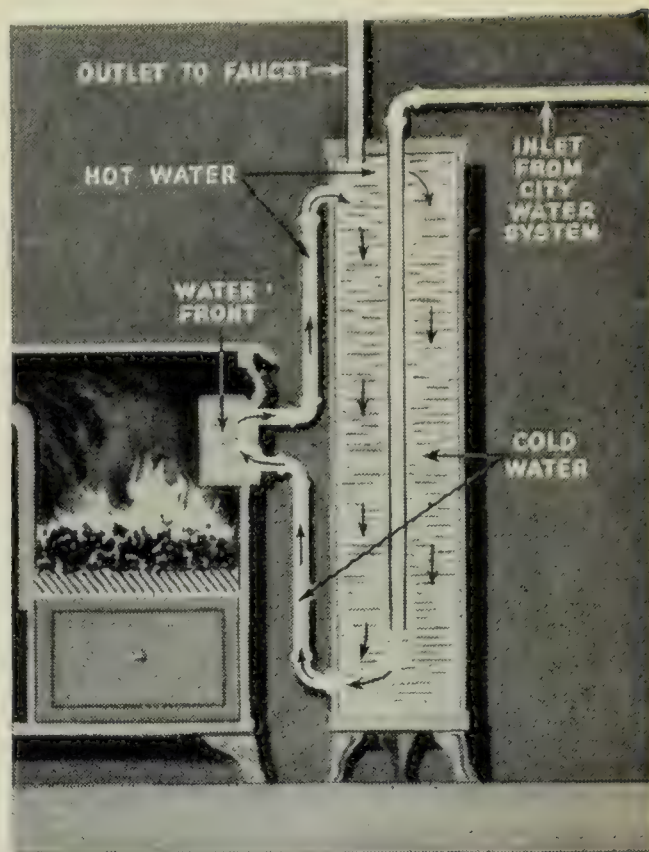

FIG. 258
**H**OW IS HOT WATER SUPPLIED? A very common appliance for obtaining hot water is the storage tank connected with the kitchen range (Figure 258). The storage tank is supplied from the water-supply system, the water entering the tank at the top. A pipe connects the tank with a coil of pipes, or a *water-front*, in the fire box of the stove. Another pipe carries the hot water back to the storage tank.